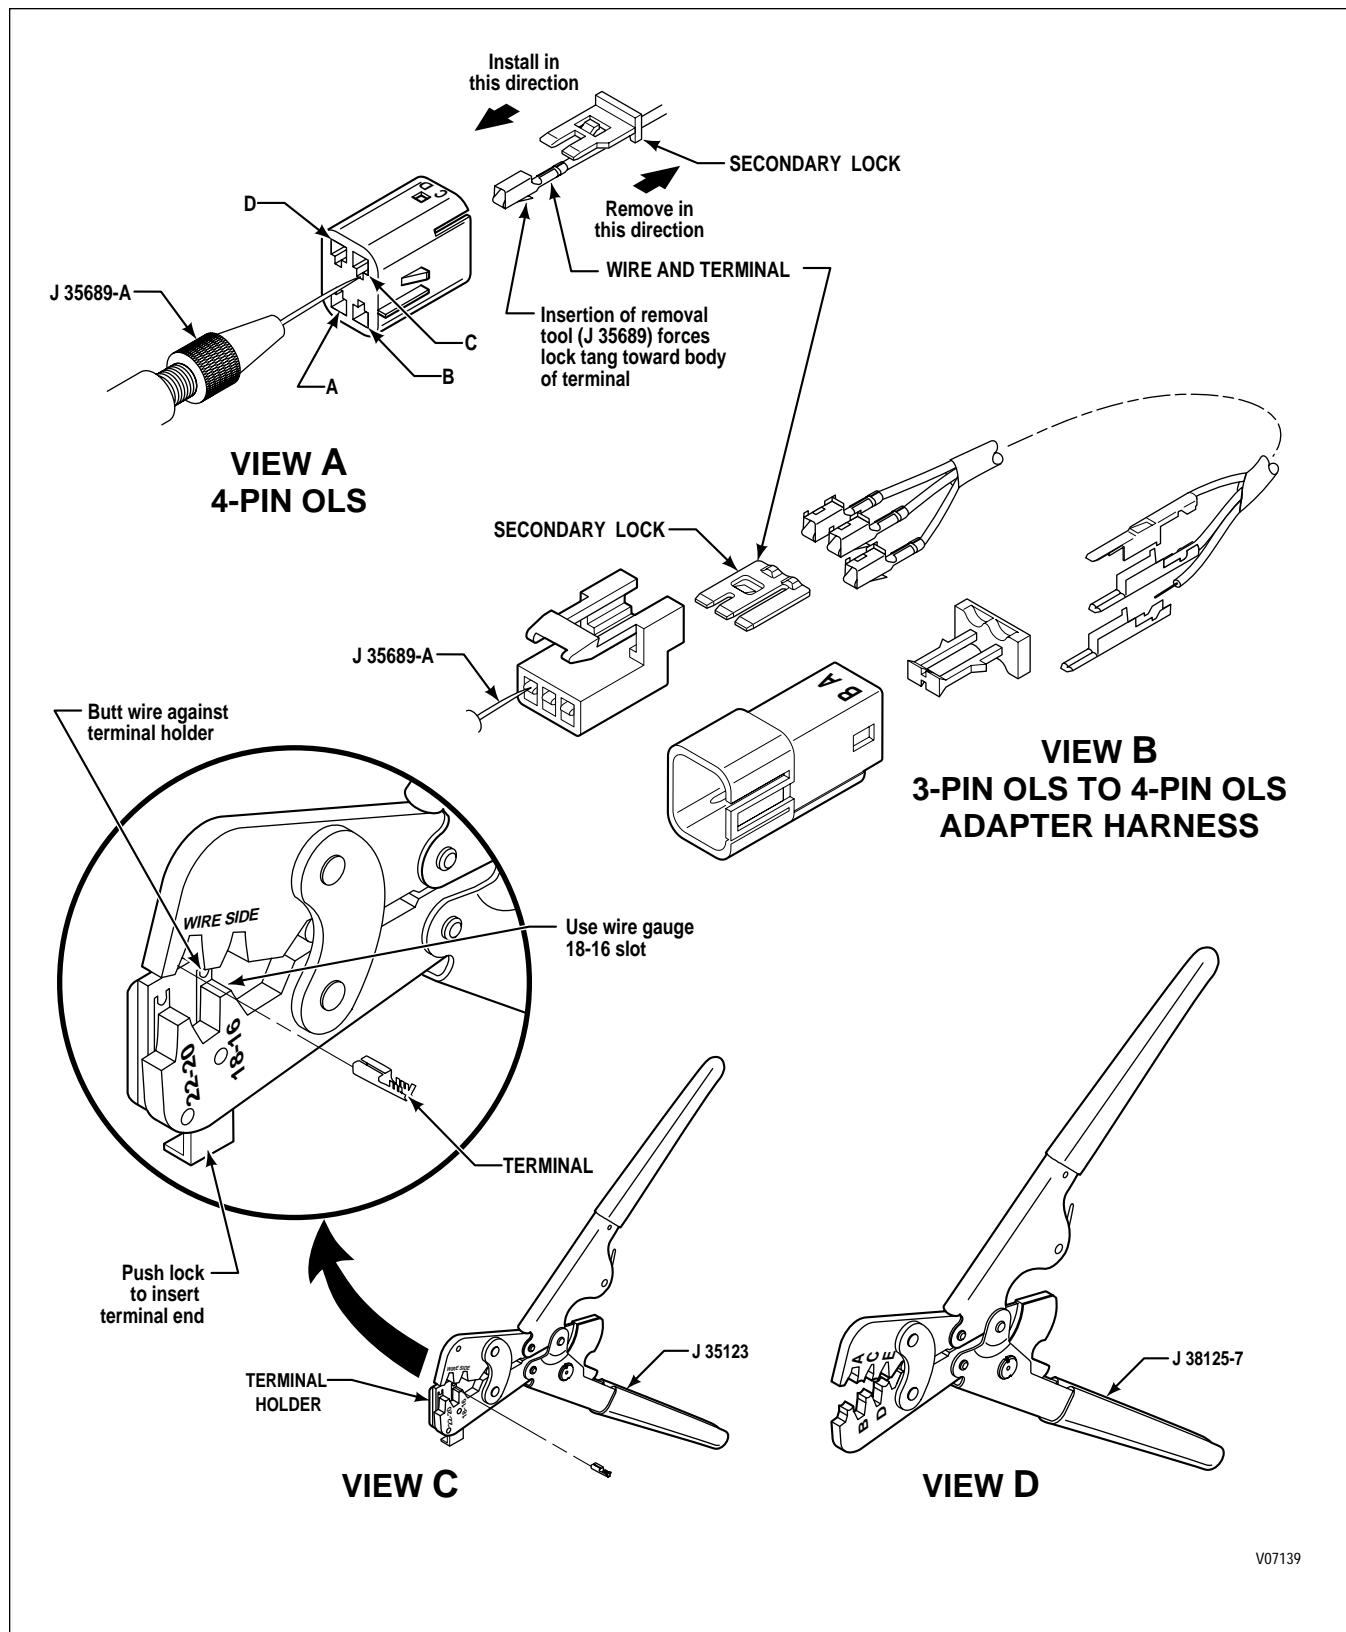

Figure E-3. Delphi-Packard Metri-Pack 150 Series Connectors — Push-to-Seat (Oil Level Sensor)
2. Place core crimp portion of terminal on bed of anvil "E" and squeeze crimper enough to keep terminal from dropping (Figure E-3, View D).
1. Insert remover tool in front side of connector to release locktab and pull terminal out rear of connector. Pull the terminal and wire out the rear of the connector to complete Steps (3) through (7).
2. Push open the terminal holder on the crimper tool J 35123 and insert a terminal into the opening marked 18–16 (Figure E-3, View C) so that the crimp ends point up. Release the terminal holder.